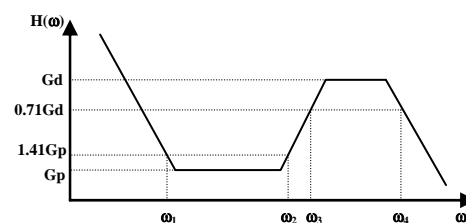

Figure 11. Transfer Function of the Compensation Network
The transfer function of the compensation network, defined as $H(\omega) = \text{VTEC}(\omega) / \text{TEMPOUT}(\omega)$, is shown in Figure 11.
- d. $C_D \cdot R_I$ determines the corner frequency, $\omega_2 = 1/(C_D \cdot R_I)$, where the differential component starts picking up (see Figure 11), as the frequency goes up.